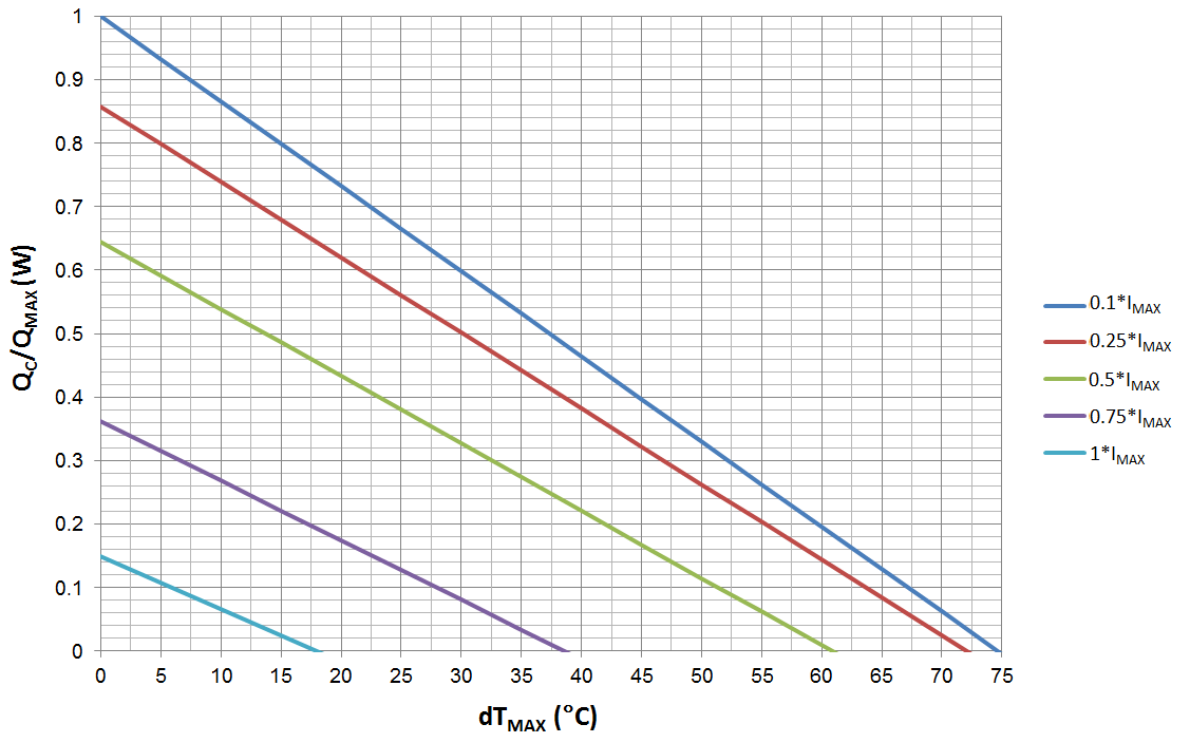
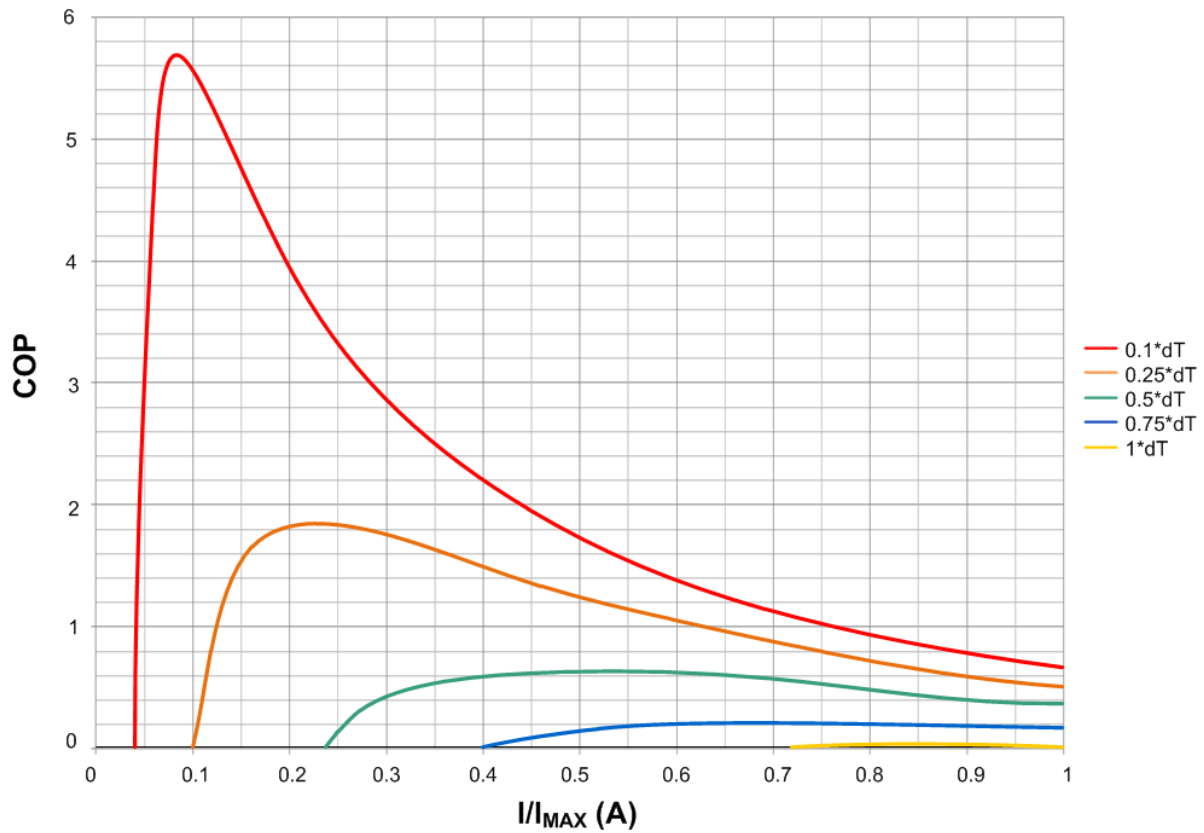

Figure 2. Q_c/Q_{MAX} vs. dT_{MAX}
Figure 9. COP vs. I/I_{MAX}
5. Use the charts provided in Figure 2 to Figure 9, to decide which TEC to use, what is the heat needed to be dumped through the heat sink, what is the heat sink temperature, etc.